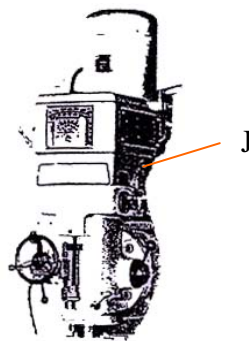

FIG.6-4
The speed change may be effectuated by the chosen high and low speed lever(FIG 6-4(J)). When(J) is engaged in the right front, it is for the high speed and the spindle rotate as high as 260 or 3950 rpm. The neutral lever position is in the right down.